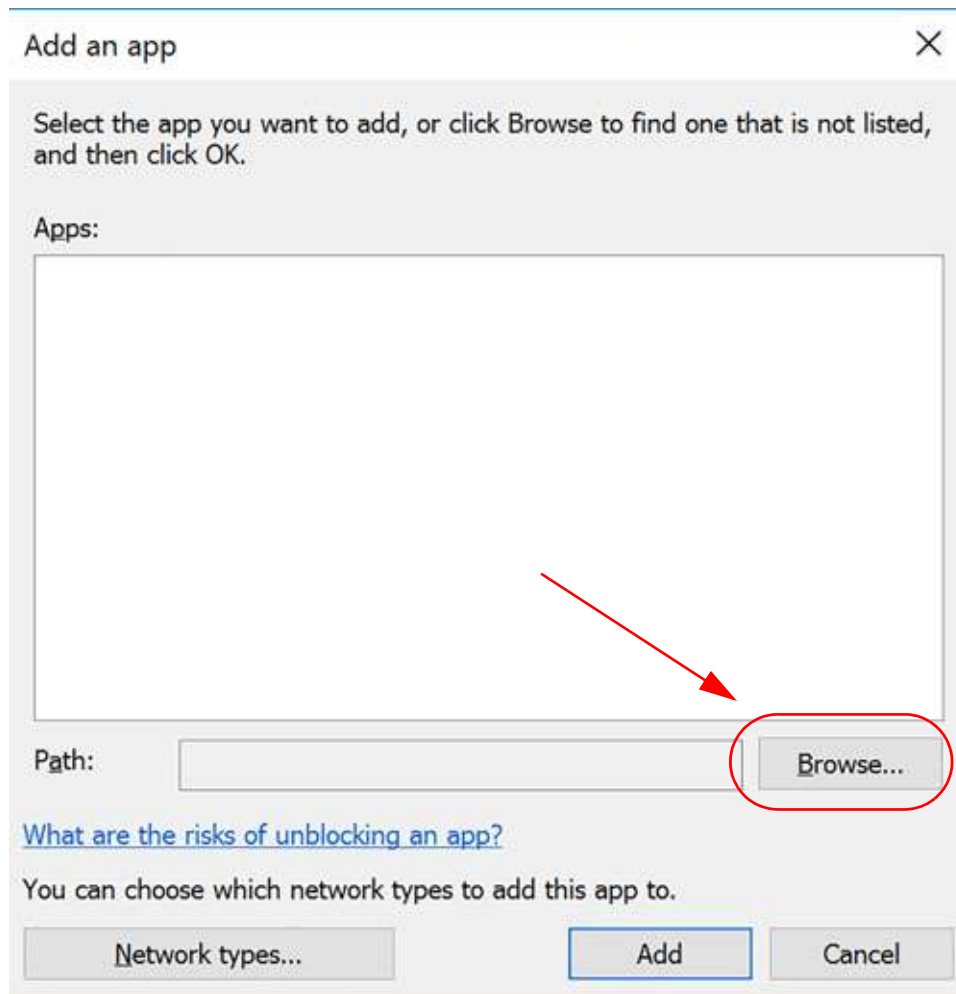

Figure 3.6: Windows Server 2016/2019: Add an App
6. From the “Add an app” screen, select the Browse button. See Figure 3.6.